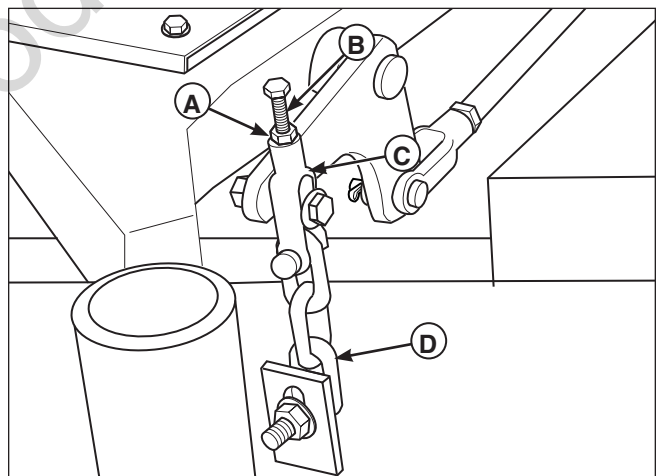

Figure 29. Lift Rod Clevis Adjustment
8. Loosen the hardware that tightens the bottom of the hanger chain (D, Figure 29) to the deck. Slide the chains down in the slots until the chains are tight and tighten the nuts. See Figure 29.
11. Loosen the jam nut (A, Figure 29) on the adjuster bolt (B) in the chain hanger clevis (C). Turn the adjuster bolt until the correct measurements are achieved. Ensure that all four hanger chains are taut, then retighten the jam nut against the chain hanger clevis.